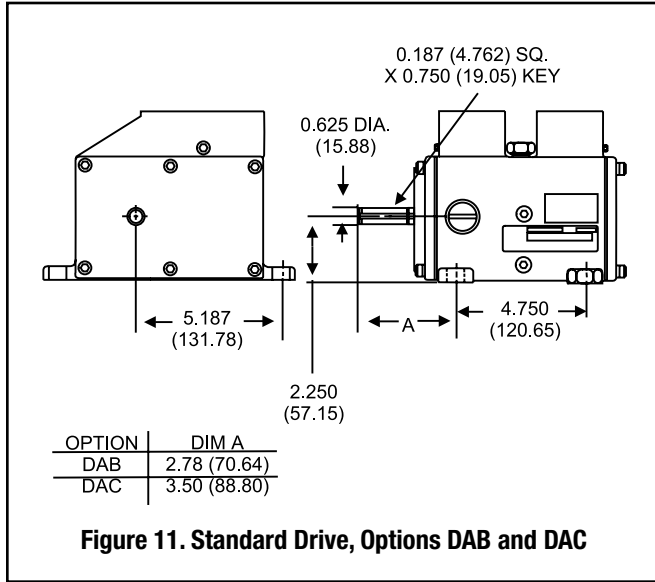

Figure 11. Standard Drive, Options DAB and DAC
**Standard Drives.** Two styles of standard drives are available. Both have a 0.825 inch (15.88 mm) diameter drive-shaft for attachment to the appropriate driving source. One of the standard styles has a slightly longer drive-shaft and is specifically designed for use in the package using the Graco supplied motor and coupler. Figure 11 shows a typical standard drive.